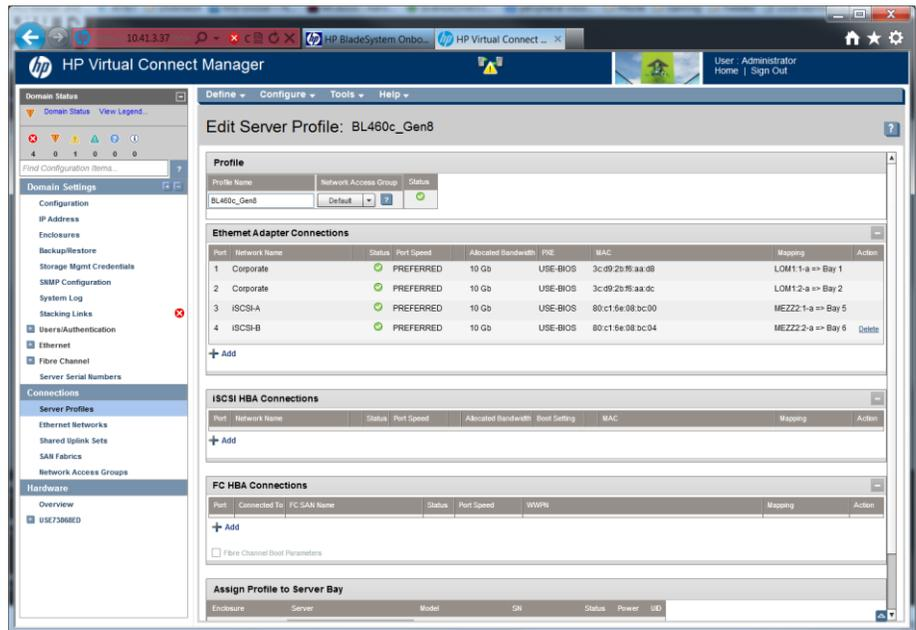

Figure 25: Assigning the second port.
- Repeat steps 4 and 5 for the second added port. In our testing, we assigned the second FlexNIC to iSCSI-B. (See Figure 25.)